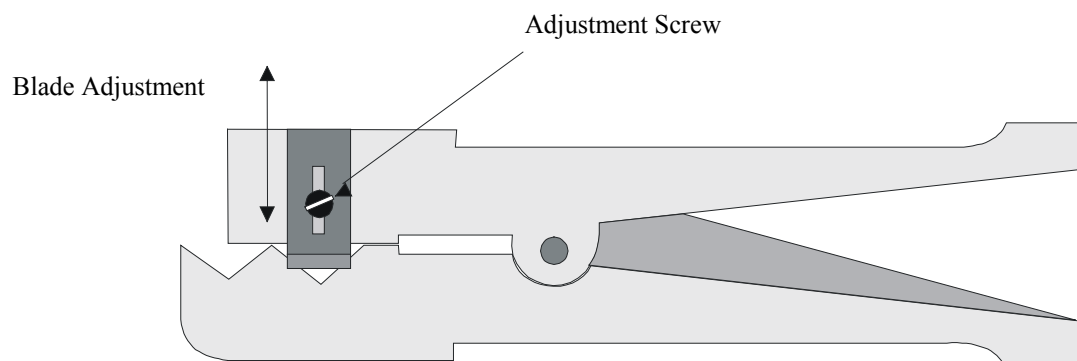

Figure B-2: Stripping Tool 1PAC10349 AKM
■ **Stripping tool**—three-way stripping tool—*1PAC10349AKM* (see Figure B-2)